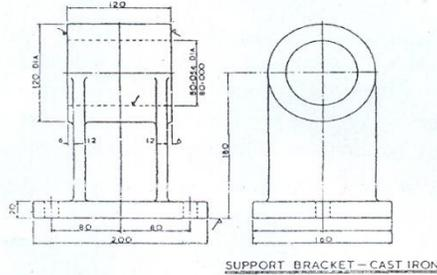

Fig.Q5(c)
- Fig. Q5(c) shows a cast iron support bracket. Identify two possible parting lines and the appropriate sand cores. Offer a design modification to remove the need for sand cores, retaining a similar weight of casting. (14 Marks)